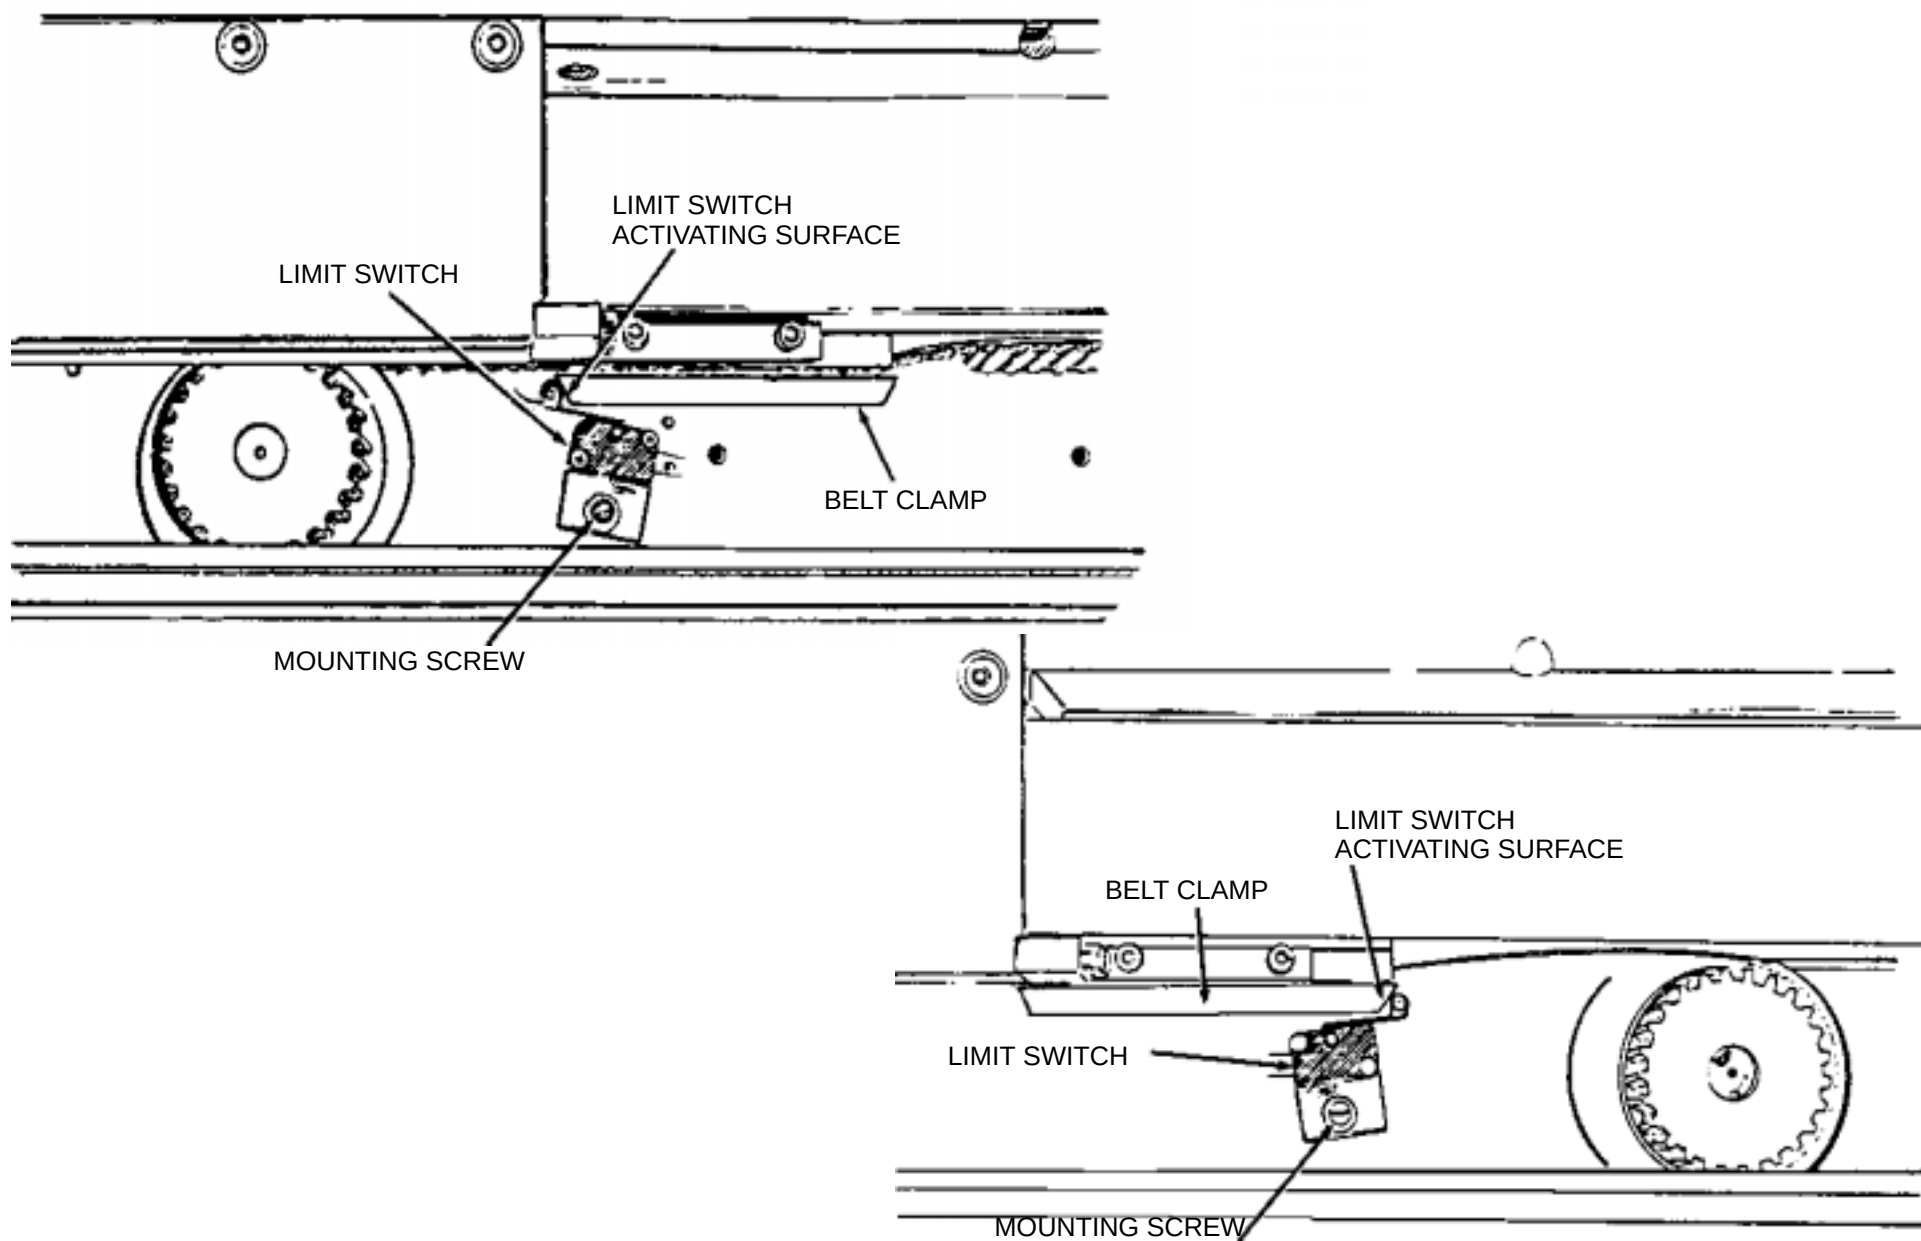

FIGURE 83 FRONT AND REAR HORIZONTAL LIMIT SWITCHES
6. Refer to Figure 83. Loosen the screw that attaches the limit switch bracket to the table frame and position the switch so that it just actuates. Tighten the limit switch in place.
9. Refer to Figure 83. Loosen the screw that attaches the limit switch bracket to the table frame and position the switch so that it just actuates. Tighten the limit switch in place.